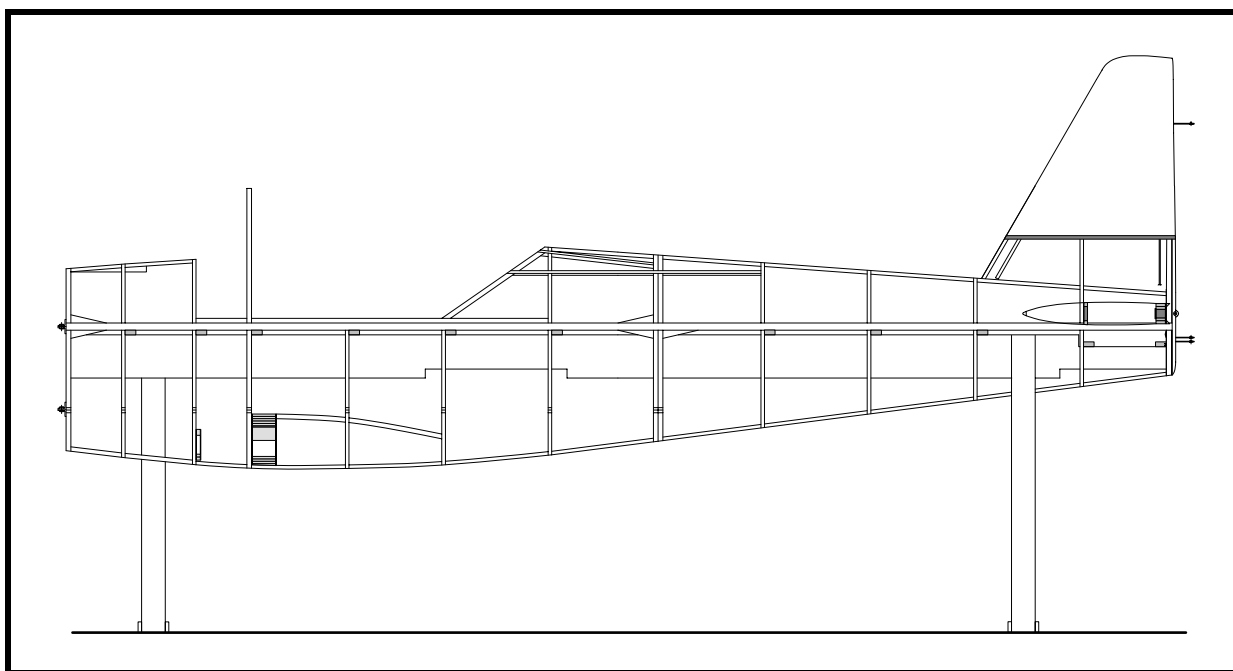

Figure 33
- ❑ Cut and fit the 15mm wide spruce tank support. See Figure 33. This strip of spruce is installed just under the forward top center longeron and is shown in Drawing No. 121.